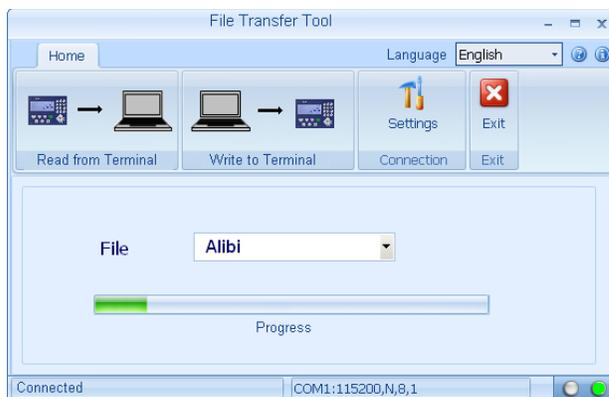

Figure 3-4: File Transfer Progress Bar
7. Once the transfer process begins, the **Home** tab of the IND246 File Transfer Tool will display a progress bar (Figure 3-4).